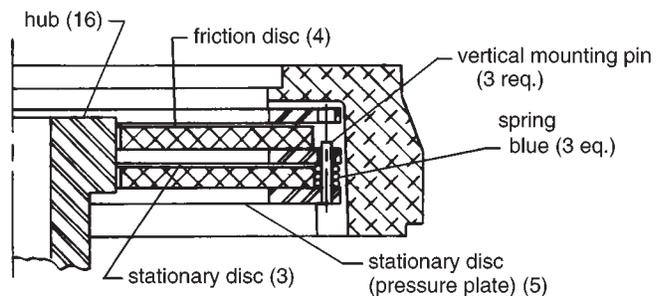

Figure 8
- c) Spring and pin arrangements for vertical below motor are shown in Figure 8.